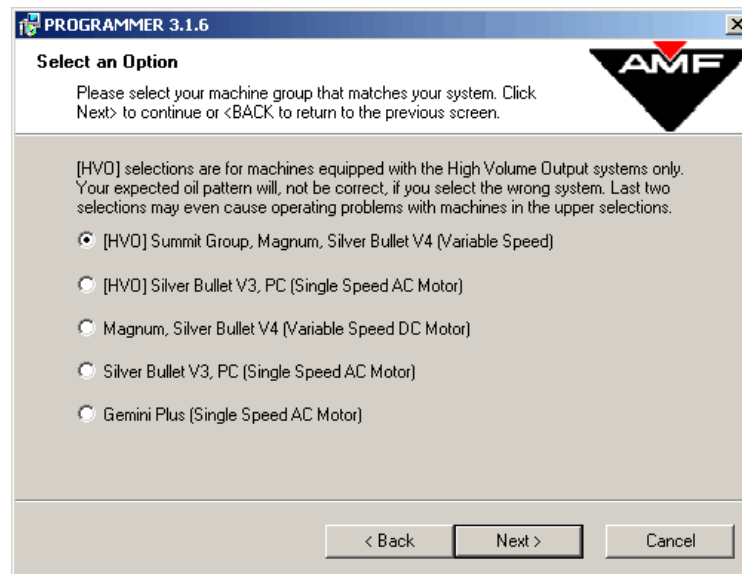
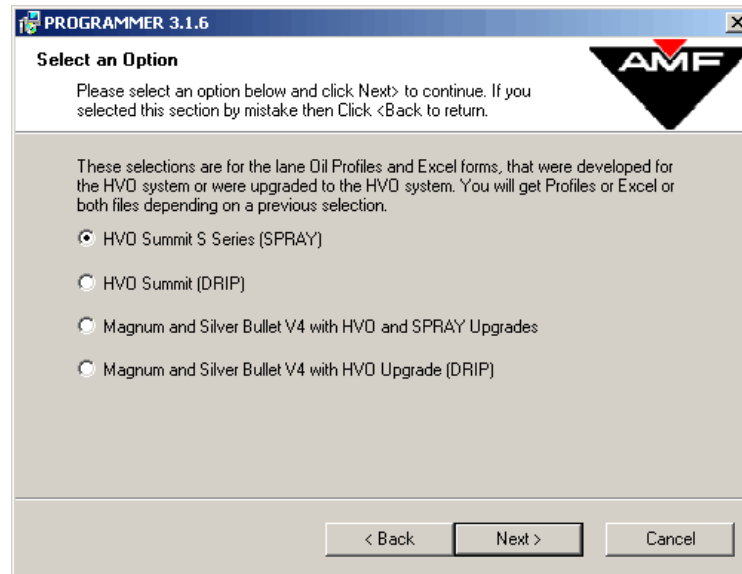

Figure 1-7
Figure 1-8
- At this point, you must choose which type of lane machine is being used. The default selection is the first item which includes the HVO Summit S Series as shown in **Figure 1-7**. Make any changes if necessary and click on the <Next> button.
10. **Figure 1-8** shows the different machines that fall under the default selection for **Figure 1-7**. The default for **Figure 1-8** is the HVO Summit S Series and is shown below. Make any changes if necessary and click on the **<Next>** button.